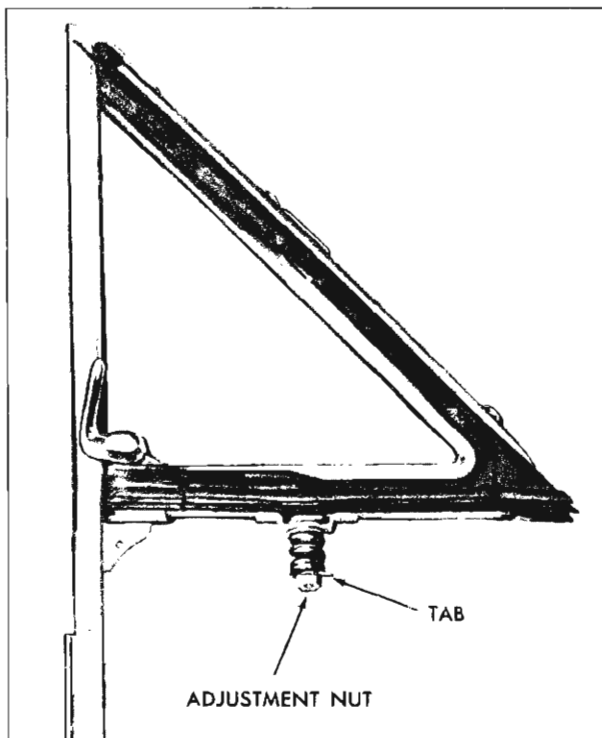

Fig. 12-21 Ventilator Friction Adjustment
2. The effort required to open or close the ventilator may be increased or decreased by straightening washer tab and tightening or loosening the adjusting nut. (Fig. 12-21).